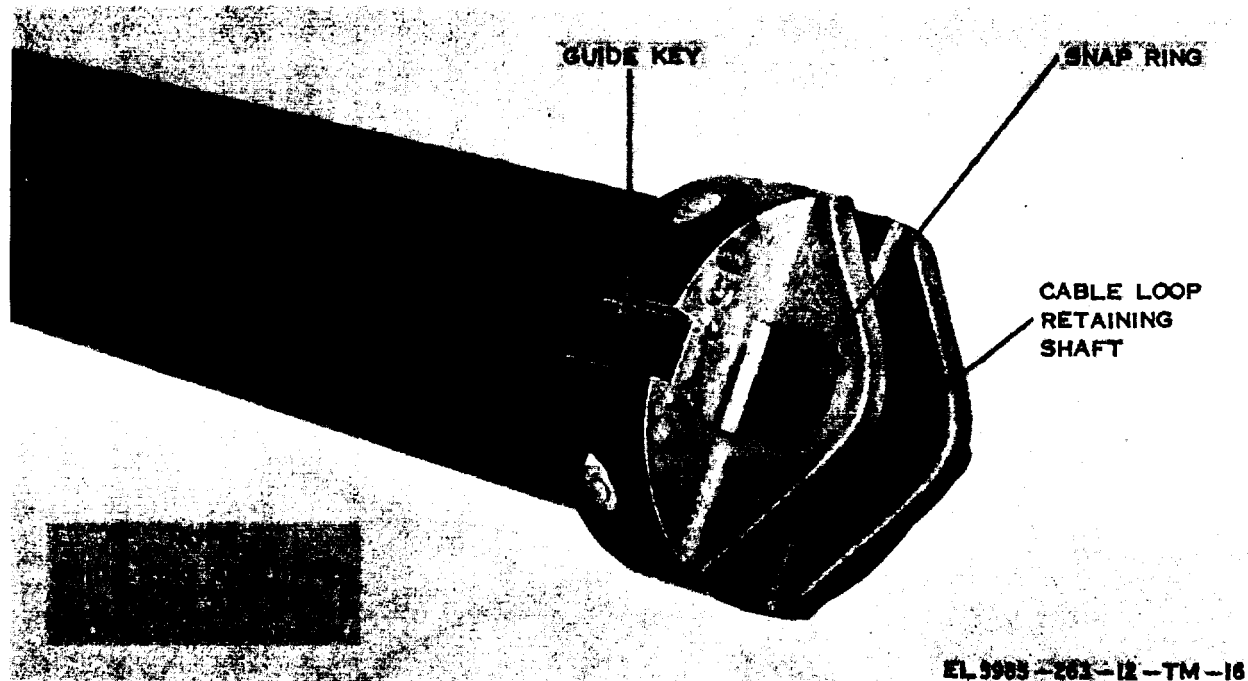

Figure 7-4. Tube assembly No. 6, bottom view.
(4) Manually slide tube assembly No. 6 (fig. 7-4) from tube assembly No. 5 (fig. 7-3). Be sure that cables 6L and 6R are completely removed.
(2) To remove the cable loops (fig. 7-5) from the end of tube assemblies Nos. 3 through 6, the cable loop retaining shaft must be removed (fig. 7-4). Open the snapping and remove the shaft; the cable loop will slide off easily.